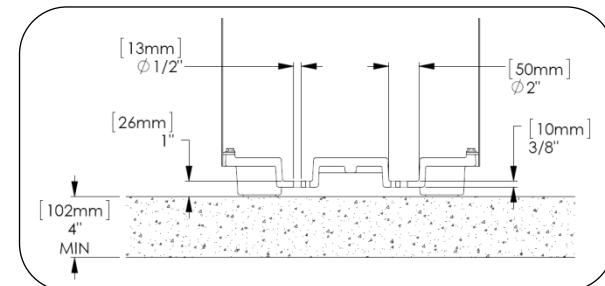

Fig. 3 – Section view of single unit base
4. Move unit and drill holes according to anchor manufacturer's recommendations. See Fig. 3 for base casting dimensions. Dimensions apply to all unit sizes. See product drawings for center to center hole spacing.